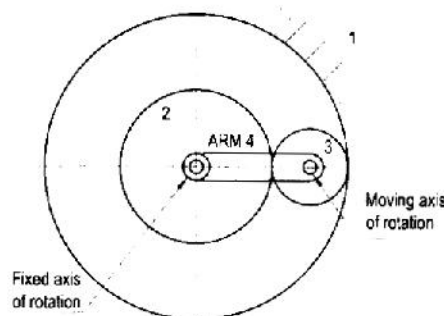

Figure 4
7. a) Consider that the arm 4 of the following figure 4 rotates CCW at 50 rad/sec. Given: Teeth of gear 1 = 80, Teeth of gear 2 = 40, Teeth of gear 3 = 20. Determine angular speed of gear 2 (figure 4).